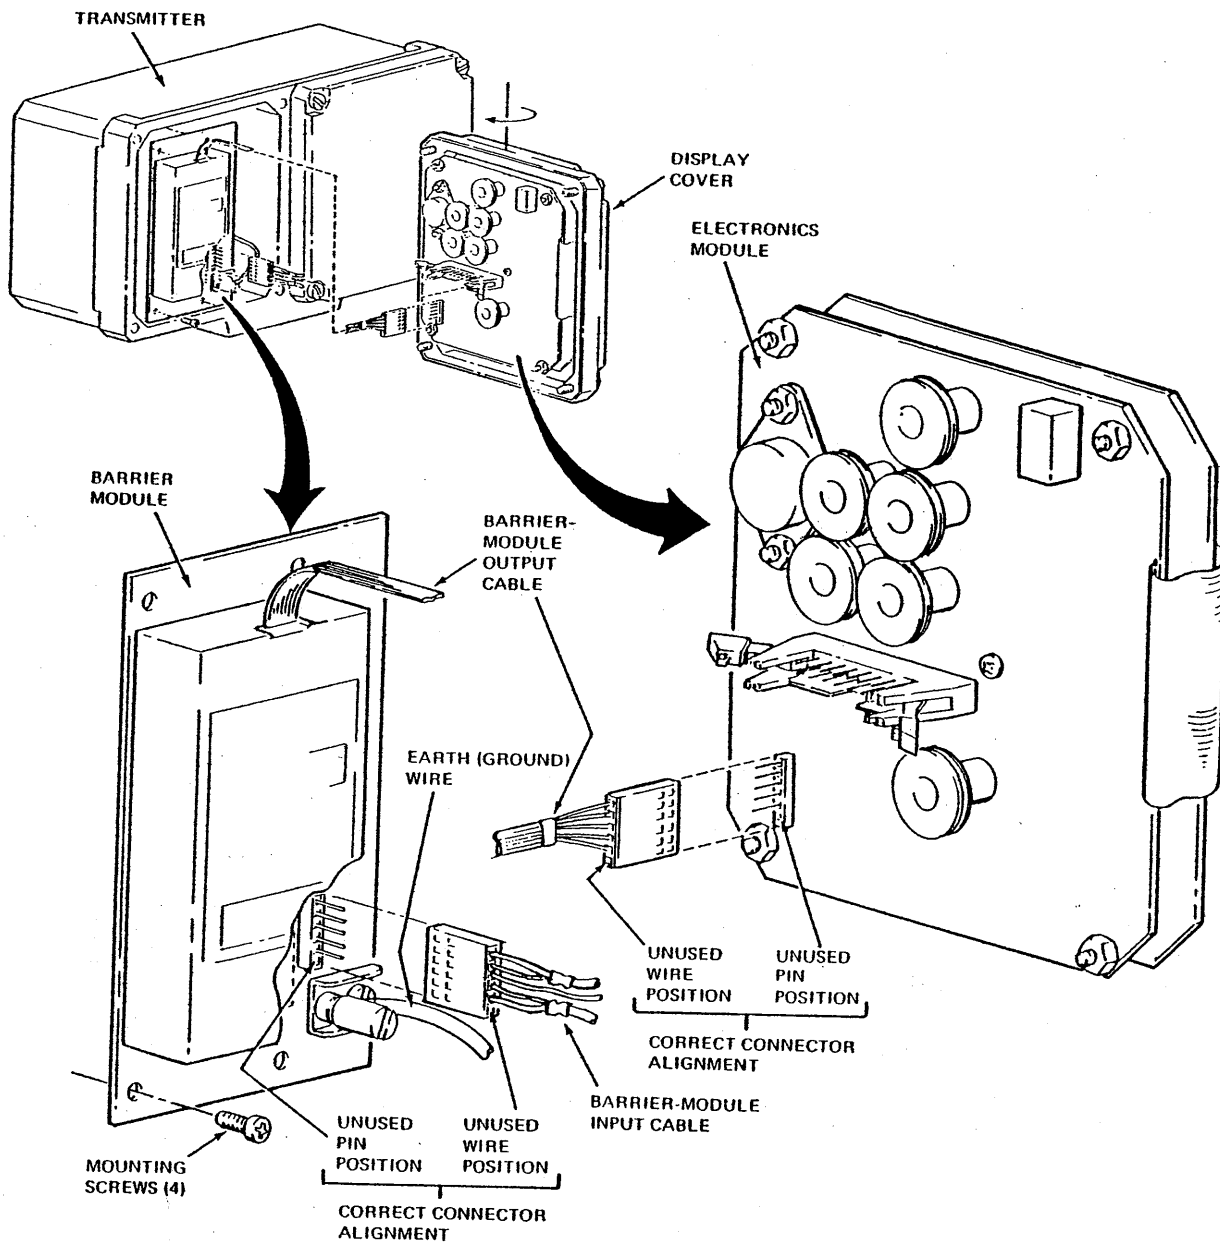

Figure 13. Barrier Module Replacement
Location of the optional barrier module inside the transmitter is shown in Figure 13. To install a new module, complete the following steps.
2. Refer to Figure 13. Remove display cover from transmitter.
3. Unplug barrier-module input cable (shown in Figure 13) from barrier module.
7. To install new barrier module, reverse Steps 2 through 6. When plugging in barrier-module cables, align connectors as shown in Figure 13. Connectors are keyed to fit one way only. Do not force incorrectly-mated connectors together.